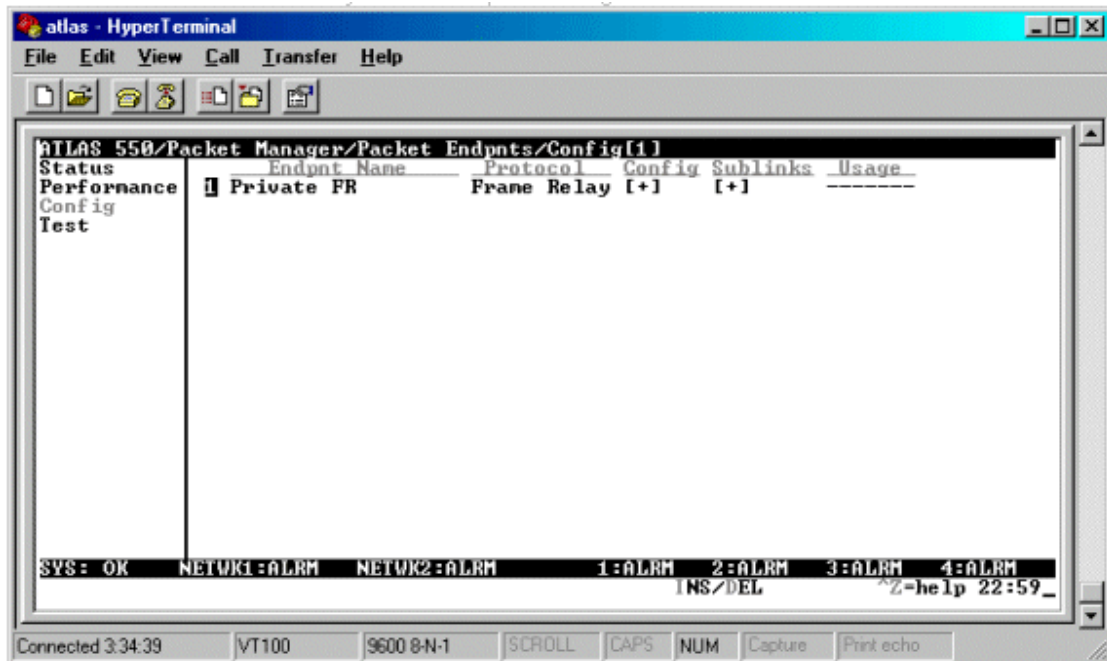

Figure 3
3. Change the **Endpnt Name** to reflect something meaningful. In Figure 3, the **Endpnt Name** is **Private FR**.